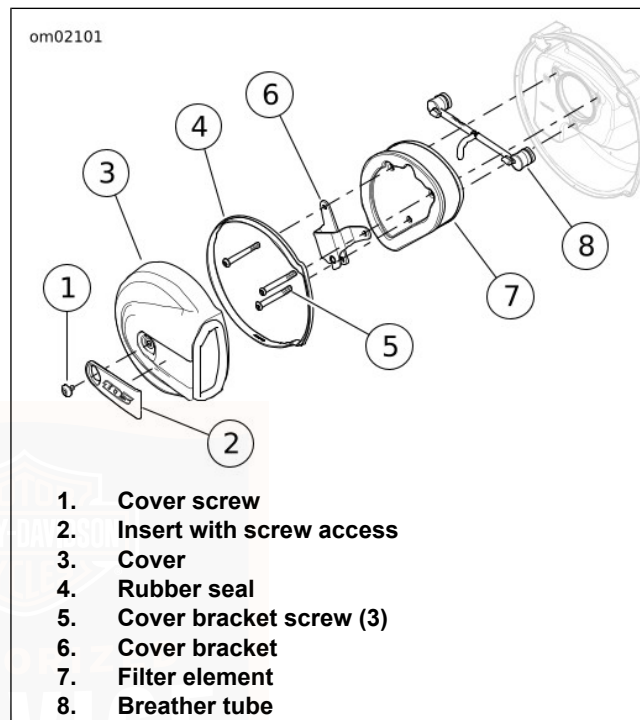

Figure 73. Air Cleaner Assembly
1. See Figure 73. Remove screw (1) and air cleaner cover (3) with rubber seal (4).
2. Remove three screws (5) to release cover bracket (6) from filter element (7).
3. Remove filter element. Pull the breather tube (8) from hole on inboard side.
1. See Figure 73. Install breather tube (8) onto breather bolts.
2. Insert breather tube into hole on inboard side of filter element (7).
4. Install cover bracket (6) and screws (5). Tighten to 12.2–14.9 N·m (108–132 **in-lbs**).
5. Verify that rubber seal (4) is not damaged and is properly seated around perimeter of air cleaner cover (3).